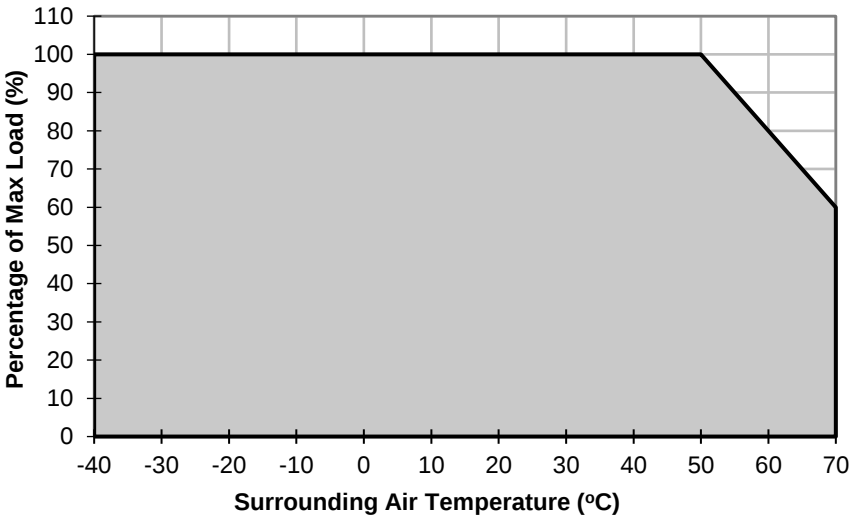
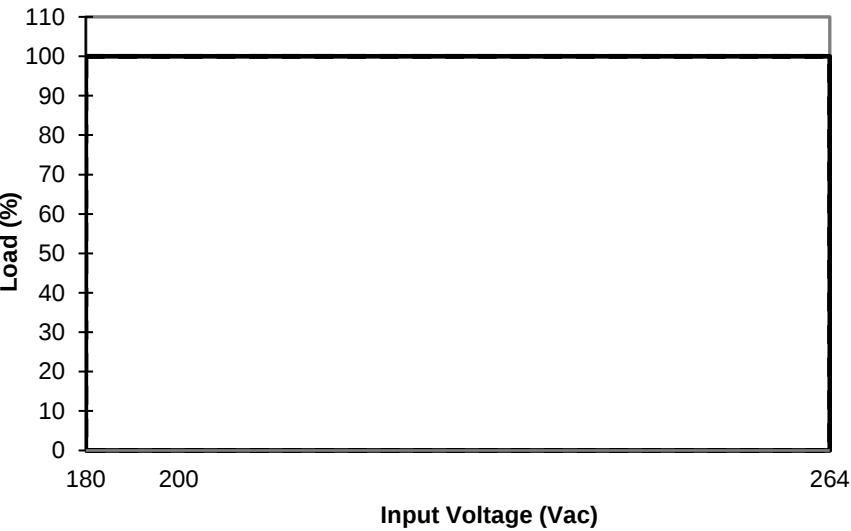

Fig. 1 De-rating for Horizontal Mounting Orientation
Fig. 2 De-rating for AC Input Voltage
- 1. Power supply components may degrade, or be damaged, when the power supply is continuously used outside the shaded region, refer to the graph shown in Fig. 1. & Fig. 2.